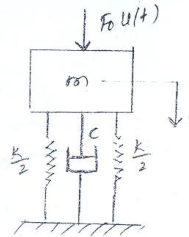

Fig. Q2(a)
- 2 a. A spring – mass system is shown in Fig Q2(a). if the system is initially relaxed and a step function excitation is applied to the mass, find the response of the system. (10 Marks)